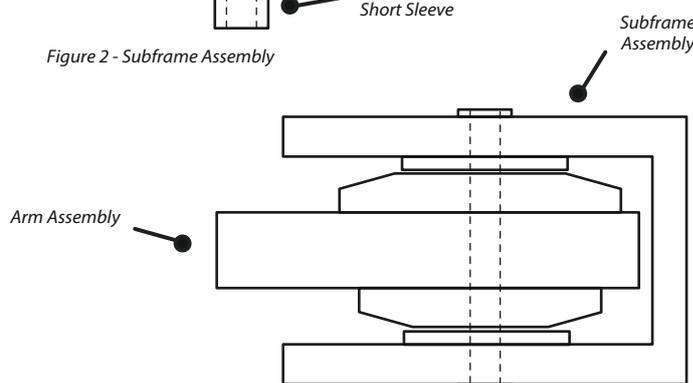

Figure 3 - Final Assembly
4. Insert the Arm Assembly into the Subframe Assembly, as shown in Figure 3. Ensure that the larger lip of the Polyurethane Bush is still facing the direction of the top of the car. Refit the arm and ensure to tension all hardware to manufacturers recommended torque settings.